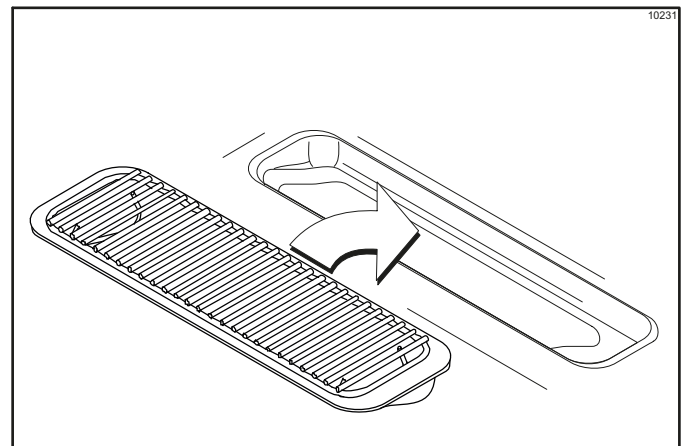

Figure 6-20
26. Install the front drip tray and splash shield under the door spouts. (See Figure 6-20.)